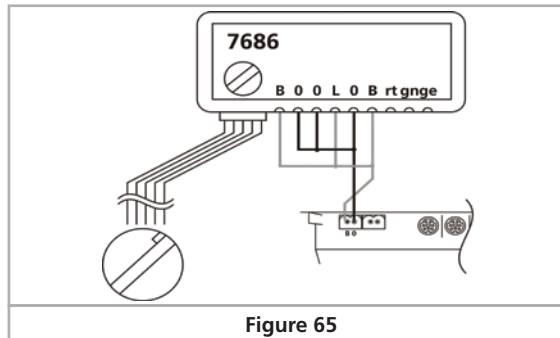
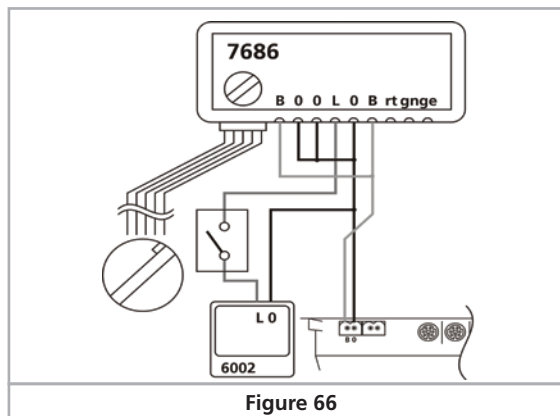

Figure 65
Figure 66
For the track power supply of the turntable you may either use the main track output of the ECoS (refer to Figure 65) or you may use an external transformer (refer to Figure 66).
- If you connect the power supply of your turntable directly from the track output terminals as per Figure 65 then turn your command station to "Stop" and afterwards to "Go" again. If you now press the "Input" button within 5 seconds the turntable decoder will change over to the programming mode.
- If you connect the power supply of your turntable to an external transformer as shown in Figure 66 you can interrupt the power supply of the turntable decoder via this transformer respectively via an optional switch in the wiring from the transformer to the decoder (terminals L and O). After turning on the power supply again, you must press the "Input" button within 5 seconds in order to switch the decoder into the programming mode.